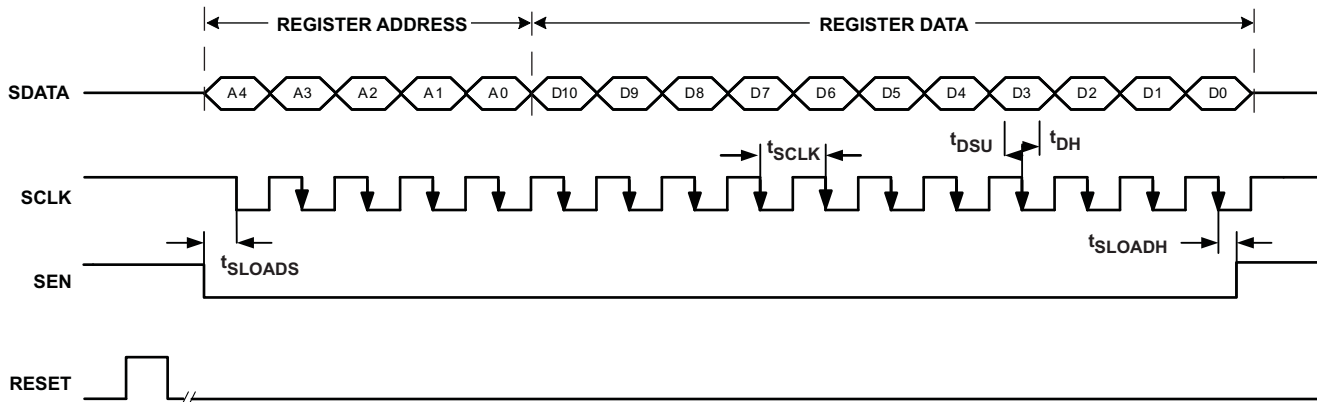

Figure 6. Serial Interface Timing Diagram
1. Either through a hardware reset by applying a high-going pulse on the RESET pin (width greater than 10 ns) as shown in Figure 6.